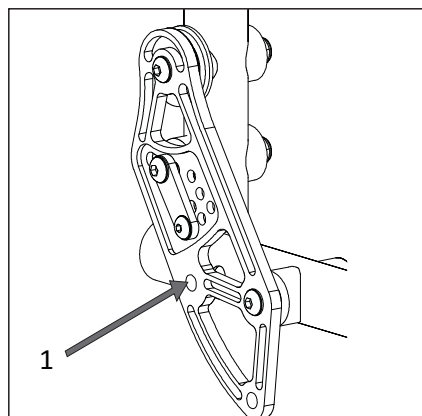

Fig.46. Zamek oparcia
- Lubricate the pin that locks the back "1" (Fig. 46). To do this first remove the rear wheels put the chair on its side and pull the rope on the folding backrest, so that the locking pin "1" is visible. Pour a few drops of oil or spray lubricant on the sleeve, in which the locking pin is mounted. Check and lubricate once a month.